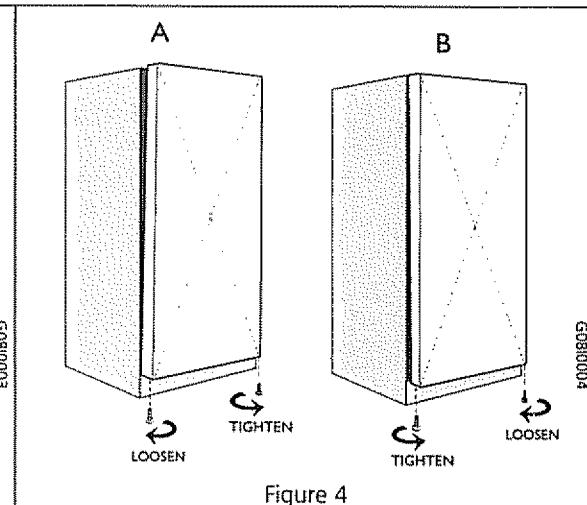

Figure 4
2. On larger models adjust the two screws **on the bottom edge of door**. (Figure 4)